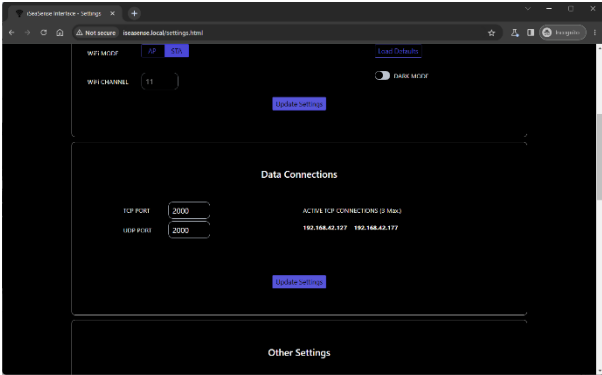

Figure 13
- Ports Setting – the Port number (default = 2000) that iSeaSense uses for UDP and TCP connections (Fig 13)
As a TCP connection is made, the IP address of the connected device is displayed. The only reason to change the Port settings from the default 2000, is if that port is being used by another device. In this case change the value as shown in Fig 13.